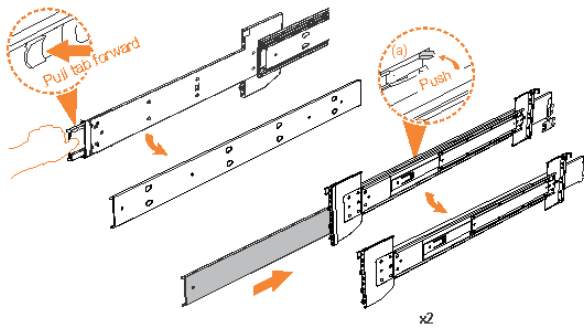

Figure 27. Detaching the inner rail section
3. Remove the inner member of the rail. Push the tab (a) and slide the middle rail member back, as shown in Figure 27 on page 43.